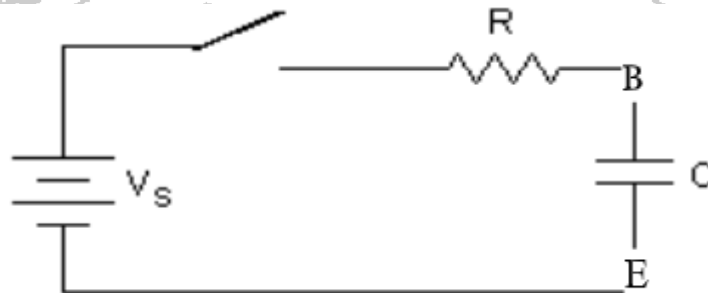

Fig 26.3: Circuit diagram to measure voltage across capacitor
2. Connect the circuit as shown in figure 26.3